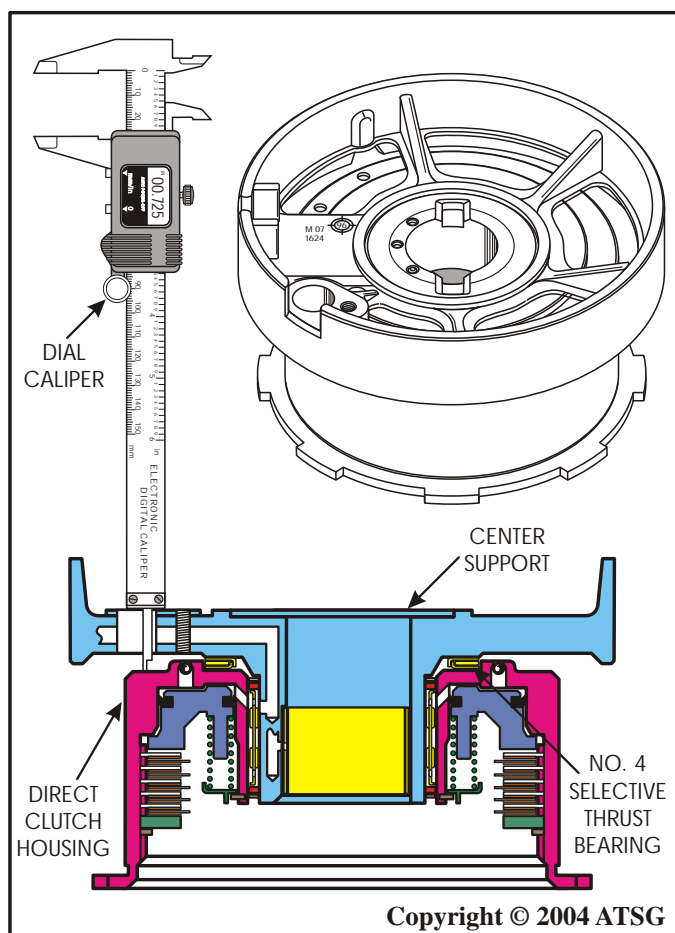

Figure 147
30. Assemble the selective bearing, direct clutch housing and center support, **on the bench**, as shown in Figure 147.
31. Measure with a dial caliper through the speed sensor hole down to the surface of the direct clutch housing, as shown in Figure 147, and record this as dimension "A".